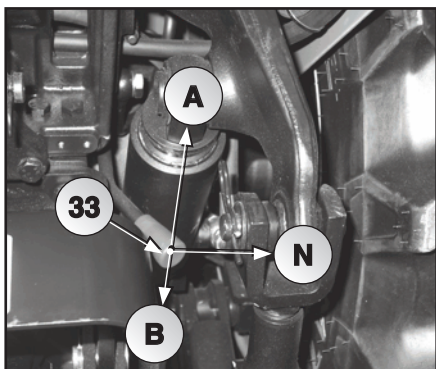
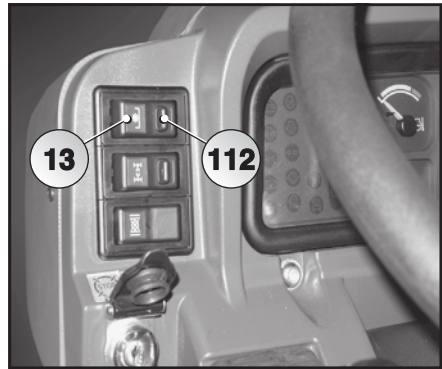

Fig. 5.37
Fig. 5.38
To prevent damage to the PTO's braking system when pulling trailers, the PTO engagement button (13 Fig. 5.38) must be activated and/or kept activated, even if the PTO itself is not used. In this case, to prevent rotation of the PTO's output shaft, the lever (33 Fig. 5.37) must be placed in neutral.
Before engaging the PTO's clutch using the switch (13) Fig.5.38, the type of operation, independent or synchronized, must be chosen using the lever (28).
To engage the PTO's clutch, move the safety bar (112) Fig.5.38 to the side and press the switch (13) Fig.5.38 on the left side of the dashboard. When the switch is pressed, the relative light inside the switch itself comes on.